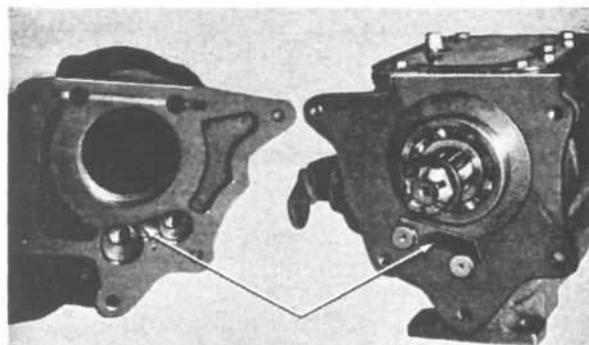

FIG. 190 — SHAFT LOCK PLATE
g. When installing the mainshaft, use care that the needle bearing rollers (9) in the main drive gear (8) are correctly positioned. Use heavy grease to hold them in position for assembly.
h. Attach the transfer case to the transmission before the unit is installed in the vehicle. When doing this, use care that the countershaft and reverse idler shaft lock plate shown in Fig. 190 is correctly positioned in the recess in the transfer case housing. Three $1\frac{1}{8}$ " long [29 mm.] screws and two 1" long [25 mm.] screws are used to attach the transfer case housing to the transmission housing. Install the 1" long screws in the lower left and lower right mounting holes.